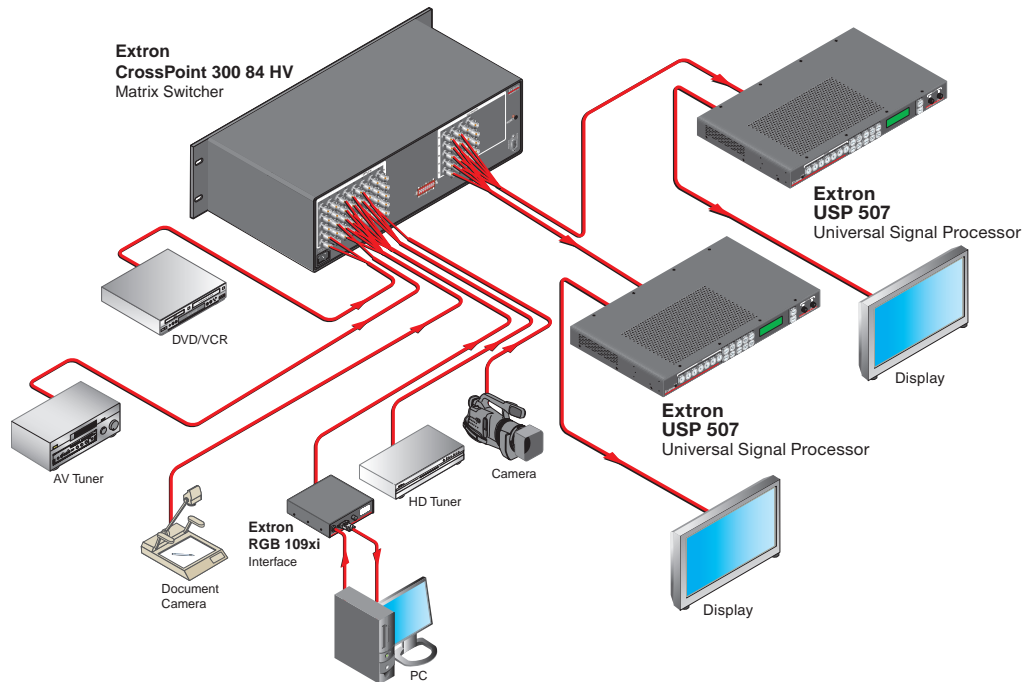

Figure 3-8 — USP 507 connected to a matrix switcher
2. Tie input 1 of the matrix switcher to whichever matrix switcher output is connected to input 3 of the USP 507 (see figure 3-8).